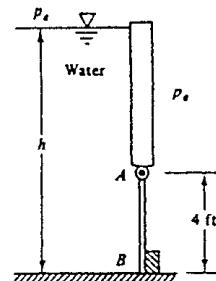

Fig. P2.55
**2.55** Gate AB in Fig. P2.55 is 5 ft wide into the paper, hinged at A, and restrained by a stop at B. Compute (a) the force on stop B; and (b) the reactions at A if  $h = 9.5 \text{ ft}$ .